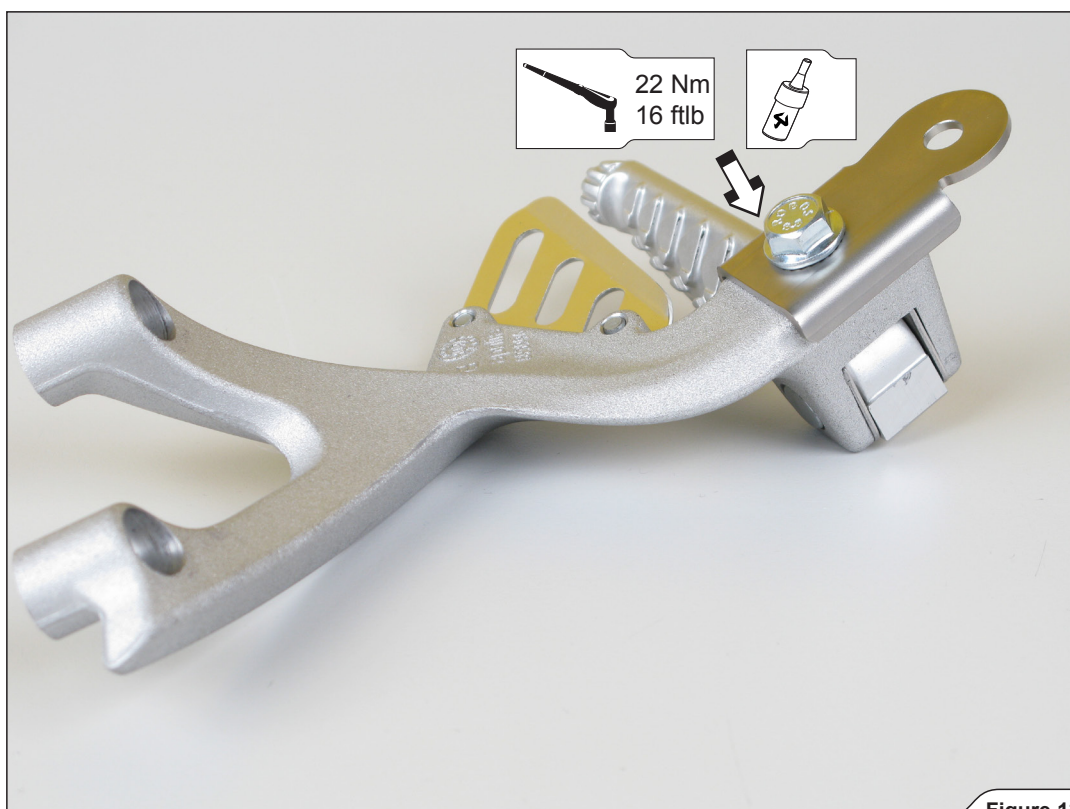

Figure 13
5. Attach the additional Akrapović stainless steel bracket to the stock passenger's footrest, using Akrapović M8x16 bolt (**Figure 13**).